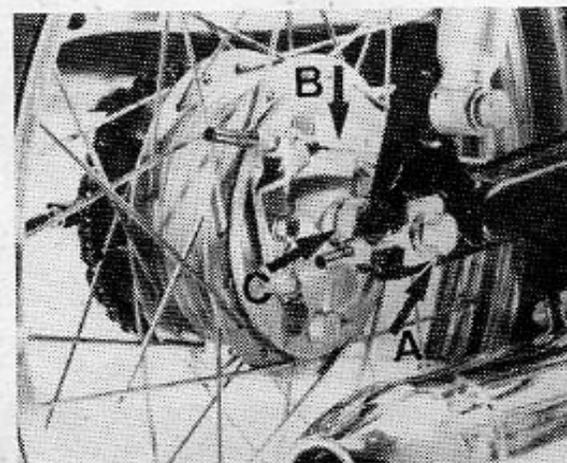
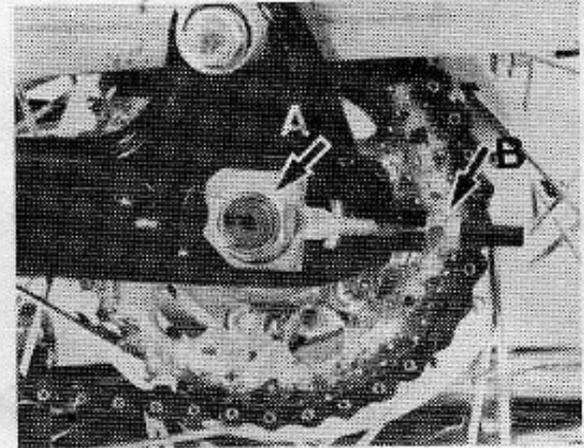

Fig. 15
Fig. 16
**REAR WHEEL** — The rear wheel is similar in design to the front one, except that it incorporates an independent chain sprocket (Fig. 15). To take off the rear wheel, firstly loosen wheel shaft «A», followed by brake rod «B», and then the spacer «C» which lies between the suspension arm and the hub. In this manner, the wheel can be removed without touching the chain sprocket.
Due to the wear of the rollers, the chain may need periodical adjustment. To adjust loosen nut «A» and tighten nut «B» (Fig. 16). Do the same with the opposite side of the wheel to maintain the rear wheel correctly aligned with the front one. Retighten wheel shaft «A» (Fig. 15) and nut «A» (Fig. 16). Retighten also the nuts «B» and lock them.